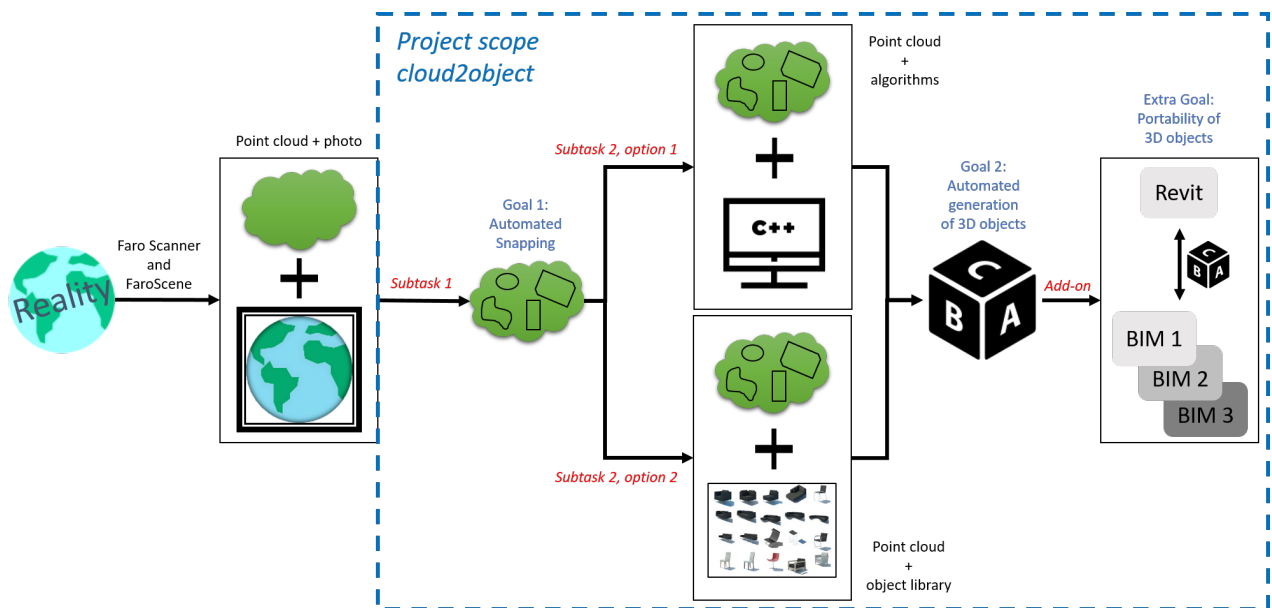

Figure 1: Sketch of project tasks.
- Note: See Figure 1 for the scope of project cloud2object with respect to the data flow.
- Note 2: Develop and implement a concept to make the data flow (Figure 1) fully automated.